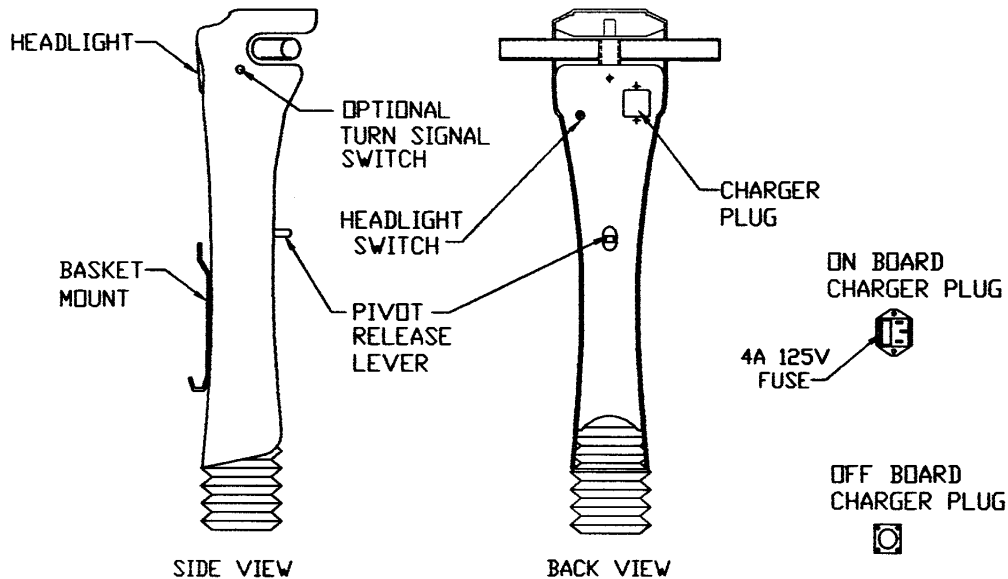

FIGURE 2
**TILLER PIVOT MECHANISM** - The tiller angle can be adjusted from vertical to horizontal. To make adjustments, push on the release lever while moving the tiller closer or farther away for yourself. Let go of the release lever to lock the tiller into position (See FIGURE 2).
**ON-BOARD CHARGER** - If you have an on-board charger it will be mounted on the scooter. You will have a charger cord with a 110 VAC plug on one end and a 3 pin rectangular plug on the opposite end. Plug the cord into the rectangular charger port on the back plate and the opposite end into an AC outlet. Refer to the battery charging section in this manual for more information (See FIGURE 2).
**OFF BOARD CHARGERS** - If you have an off board charger, it will not be mounted on the scooter. You will have a charger with a cord having an AC plug on one end and a cord with a round plug on the other end. Connect the round plug to the tiller back plate and plug the AC cord to an AC outlet. Refer to the battery charging section in this manual for more information (See FIGURE 2).